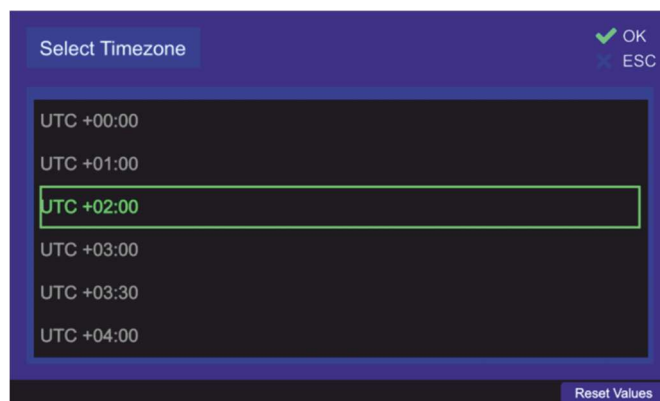

Figure 137. "Select Timezone" dialog
- Choose the proper time difference (local time) to the UTC time using the drop down dialog (s. Figure 137).